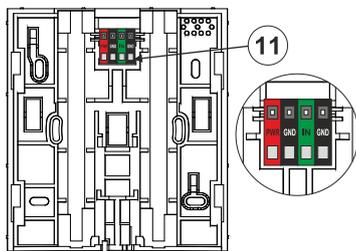

Figure 4: 11 – terminals of an external power supply and an external magnetic contact
2. Mount the back of the keypad to a flat wall using 4 screws. To connect an external power supply or magnetic contact, use the terminals on the back of the keypad, see Figure 4. See the connection description in the paragraphs the Alternative Power Supply and Installation of a magnetic contact.
6. First attach the bottom edge of the keypad to the mounting pad (rear part) of housing (align the bottom sides). Then slide the keypad downwards, until you hear the click of the tab (10). This will secure the keypad against falling out of the installation pad. Then turn the locking mechanism (9) clockwise 90° to the position where the groove points to the symbol). This locks the keypad in place and engages the tamper contact.